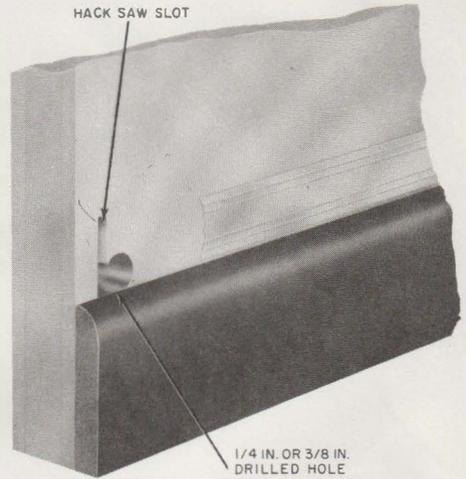

Fig. 11—Hole Through Wall for B Station Wire
- (1) Drill 1/4- or 3/8-inch hole through wall at desired location.
- (2) With a keyhole hack saw, cut a slot on side of hole opposite direction of intended wire run (Fig. 11).
- (3) Carefully pass only a few inches of wire through wall, place a No. 718 tap, and splice wire at this point to extend wire run.